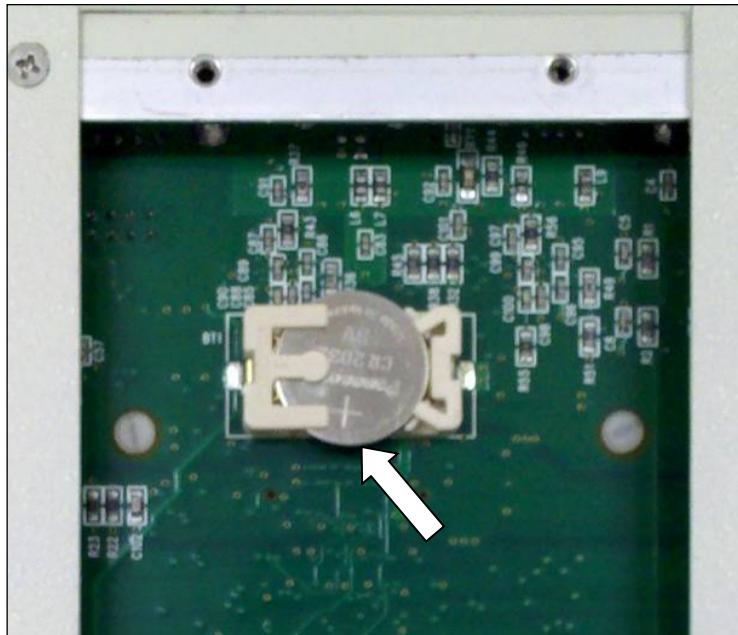

Figure 15-7
- a. Locate the new battery and verify the proper orientation as shown in Figure 15-7 – the positive (+) side of the battery must face up.